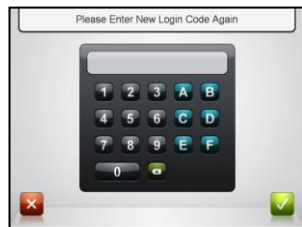

Figure 5-40: Setting Login Code
- III. Operator is required to re-enter the new Login code (followed by pressing the **Confirm** button) – See Figure 5-40.